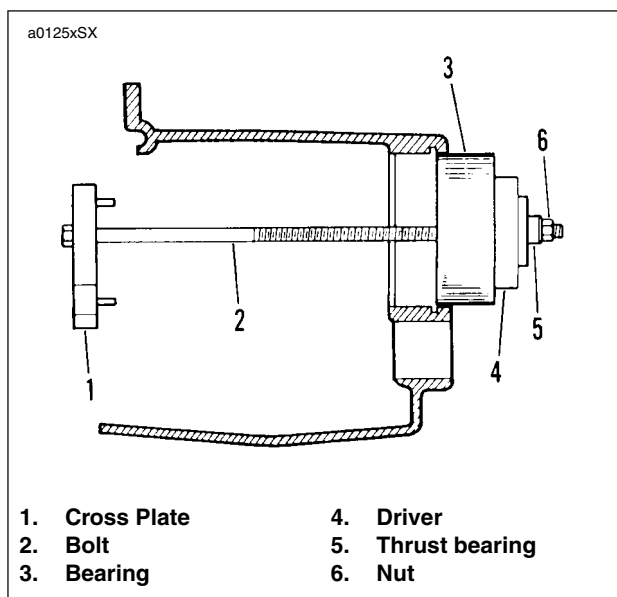

Figure 6-75. Installing Mainshaft 5th Gear Ball Bearing
2. See Figure 6-75. Insert bolt (2) through cross plate (1), **new** bearing (3), driver (4) and thrust bearing (5). Thread nut (6) on end of bolt. Tighten nut carefully until bearing is started in bore squarely. Tighten nut (6) until bearing is seated against shoulder in bore.